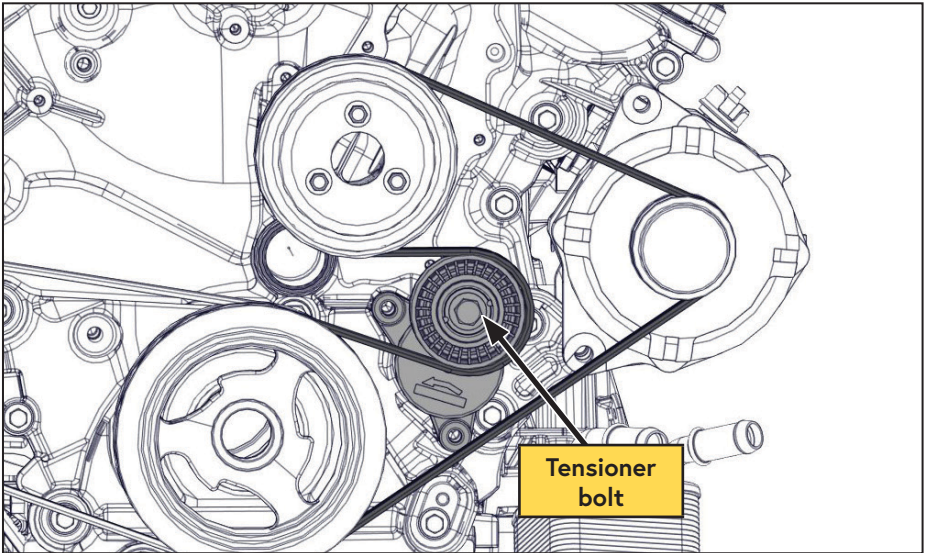

Figure 12 — Remove 6 rib belt
- From underneath the vehicle, use a 15 mm serpentine belt wrench to release the tension and remove the OEM 6 rib belt from the crank pulley. Tuck the belt out the way (Figure 12).